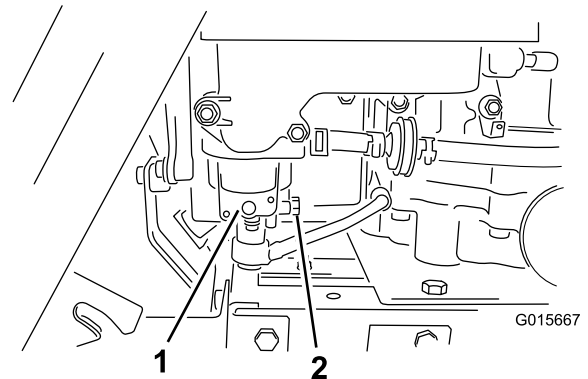

Figure 26
3. Open the hood and locate the carburetor under the air cleaner (Figure 26).
Note: The carburetor float chamber plug faces toward the back of the machine (Figure 26).